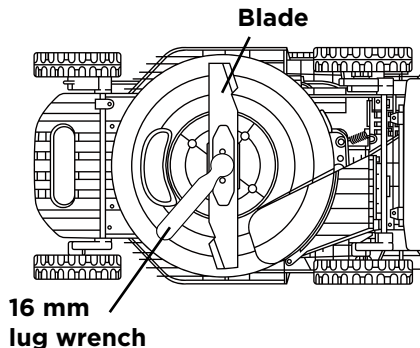

Fig. 10
- Using a 16mm lug wrench (not provided), remove the lug nut securing the blade by turning the lug nut counter-clockwise, then carefully remove the blade (Fig. 10 & 11).